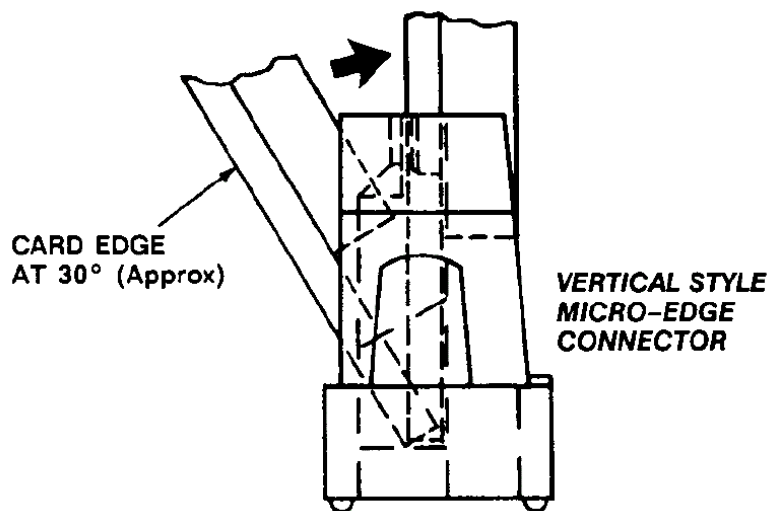

Figure 1
3. Grasp the board at the top edge and insert the contact pad edge into the card slot of the connector at an angle of approximately 30 degrees toward you (see figure 1).